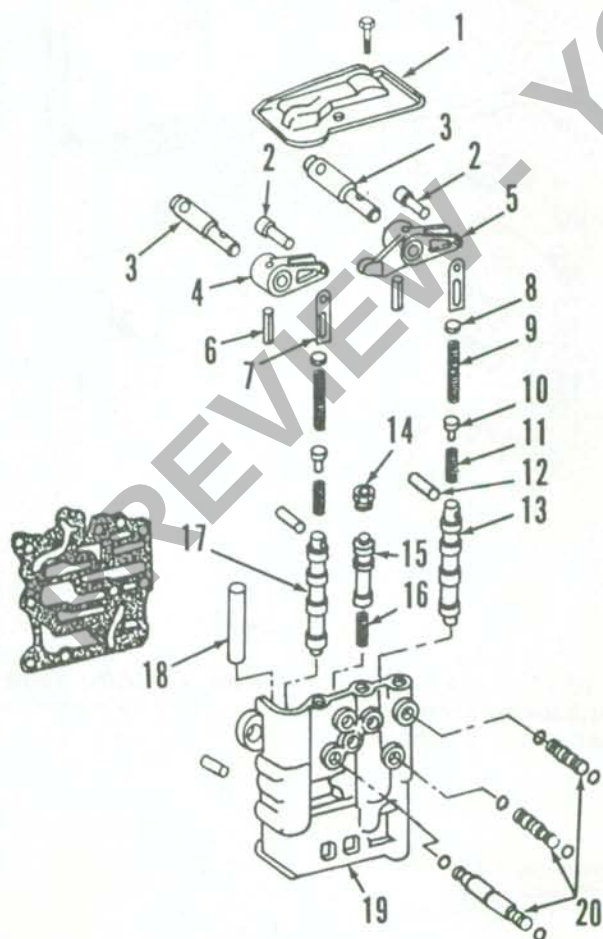

**Fig. 89—Exploded view of clutch valve inner housing assembly.**
**99.** The clutch pressure regulating valve housing is mounted on the left side of the transmission housing. The pressure regulating valve (14—Fig. 88), pto clutch valve (13—Fig. 89), traction clutch control valve (17) and clutch shut-off valve (15) are contained in the valve housings. The clutch shut-off valve prevents tractor from moving until clutch pedal is de-
Drive out roll pins (4—Fig. 88) and remove control valve arms (2 and 3). Remove cap screws securing regulating valve housing to control valve housing and separate housings. Remove valve shield (1—Fig. 89). Remove valve pins (2), shafts (3) and operating arms (4 and 5). Remove links (7), thrust washers (8), springs (9 and 11), pins (12) and valve spools (13 and 17). Keep parts from each valve assembly separated as they are not interchangeable. Note that traction clutch valve springs are color-coded red. Remove pto lever lock piston (18). Remove plug (14), clutch shut-off valve (15) and spring (16).